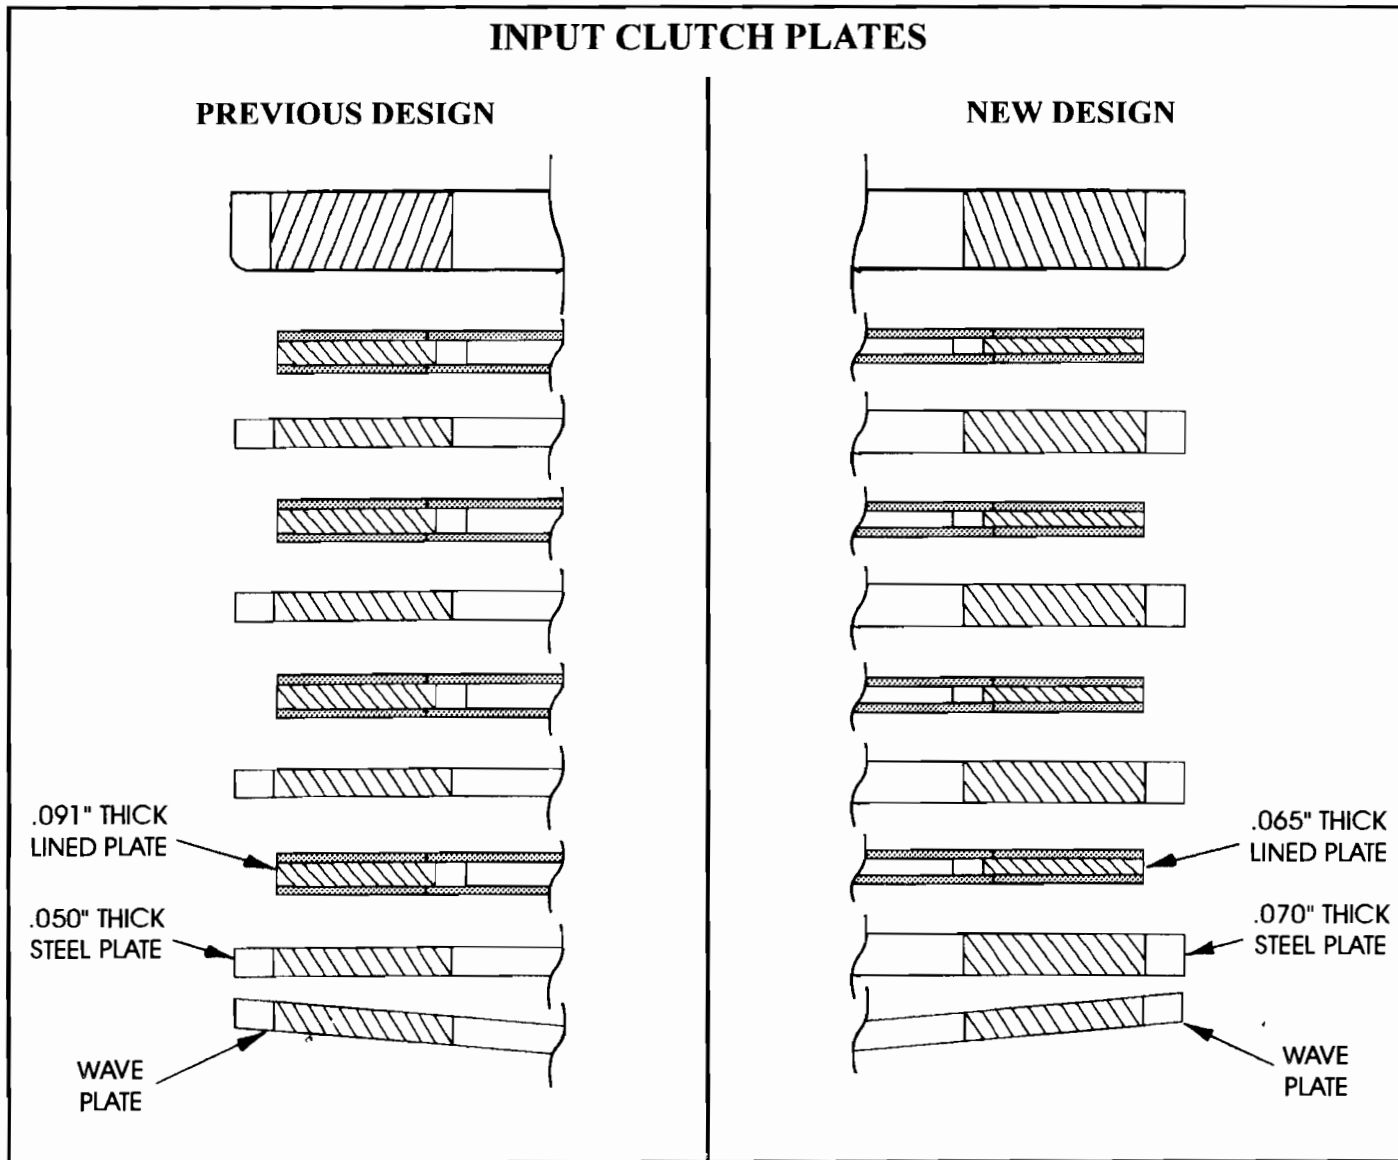

Figure 9
- (1) The new design input clutch pack, available under OEM part number 24203185, as a service package, **will** back service all 1991-1995 4T60-E transaxles.
- (2) The new design input clutch pack, available under OEM part number 24203185, as a service package, will also back service 4T60 (440-T4) transaxles from late 1990 (Julian Date 016 and later), through 1993 models. These are the transaxles with the input clutch accumulator eliminated and a wave plate added to a new input housing. They **cannot** be used on any 4T60 (440-T4) models previous to the Julian Date listed above.
- (3) Previous and new design clutch plates **cannot** be mixed. Clutch plates must be measured to verify their thickness. Refer to Figure 9 for the previous design, and new design input clutch stack-ups.